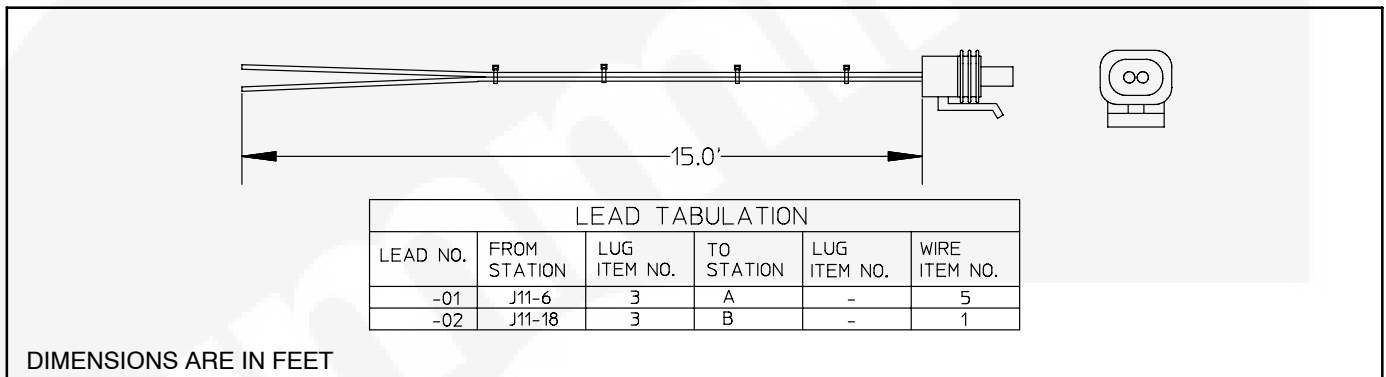

FIGURE 3-22. COOLANT TEMPERATURE SENSOR HARNESS
- Connect the color-coded control harness wires marked P11-6 and P11-18 to the coolant temperature sensor harness wires marked J11-6 and J11-18 (see Figure 3-22).